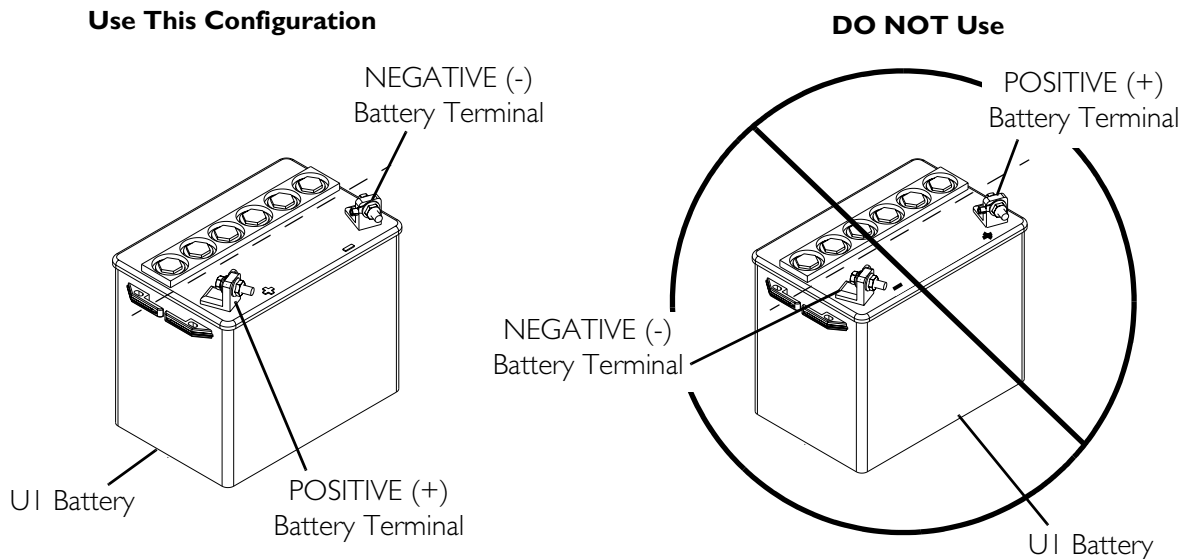

FIGURE 10.1 Using the Proper Batteries
NOTE: For this procedure, refer to FIGURE 10.1.
2. Visually draw a horizontal and vertical centerline through the middle of battery (FIGURE 10.1).
4. Visually inspect the battery to ensure the correct position of the POSITIVE and NEGATIVE terminals (FIGURE 10.1).